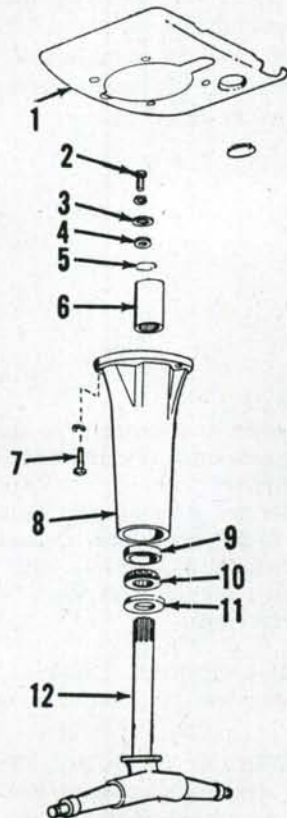

Fig. 4 — Exploded view of typical pedestal and associated parts.
4. R&R PEDESTAL. Raise front of tractor, then remove cap screws retaining pedestal to front support casting. The splined coupling (6—Fig. 4) will be removed with the pedestal assembly.
5. OVERHAUL. To overhaul the removed unit, remove cap screw (2— Fig. 4), washer (3), shims (4) and coupling (6). NOTE: Make certain that shims (4) are not lost or damaged as they provide the proper bearing adjustment. With splined coupling removed, spindle shaft can be withdrawn from pedestal. Pack bearing (10) with No. 2 wheel bearing grease. Oil seal (11) is of the lip type and should be installed with lip towards bearing. Coupling should be installed on spindle shaft with end of coupling nearest internal snap ring downward. When reassembling, vary the number of shims (4) to provide shaft with a free rolling fit and no end play.